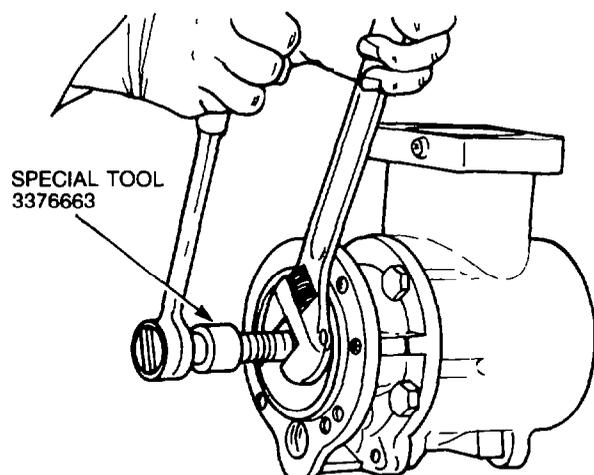

Figure 235 — Spline Drive Coupling — Removal
- k. Using special tool 3376663 remove the spline drive coupling from the crankshaft as shown in Fig. 235, then remove the thrust washer.